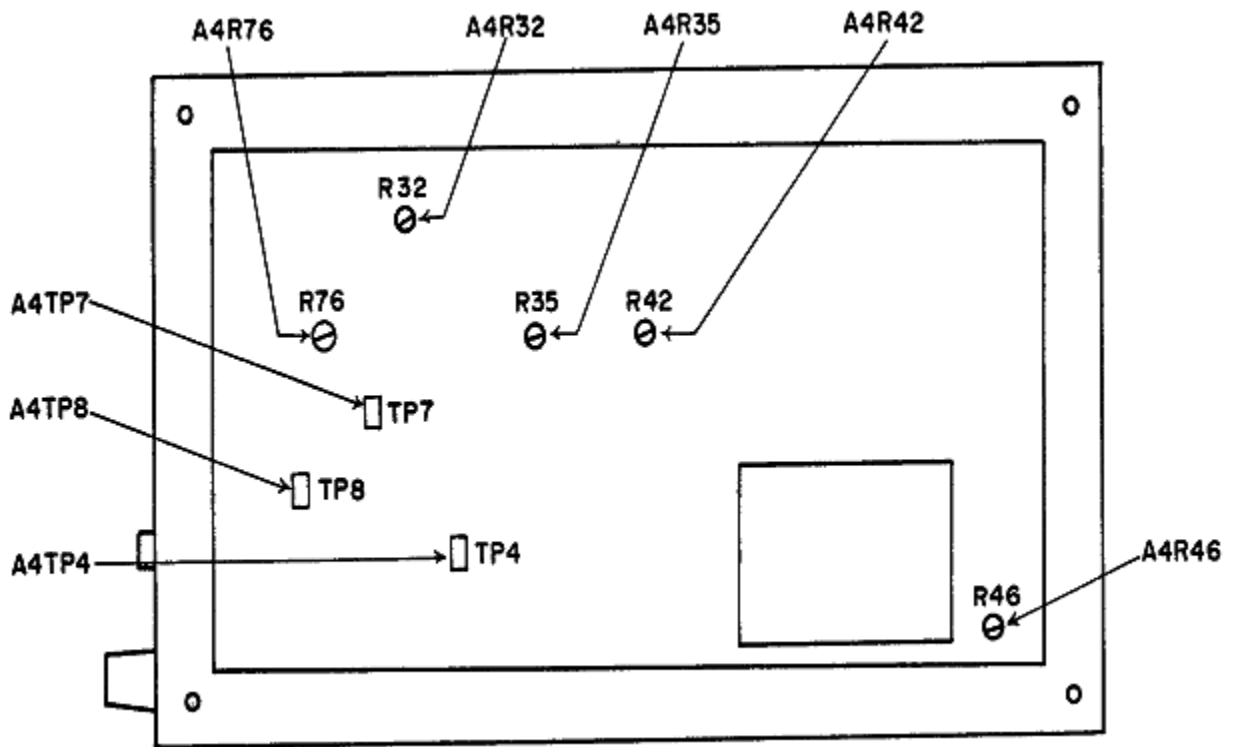

Figure 2. Model 435A - right view.
- (1) Adjust A4R35 (fig. 2) for a 1 V indication on TI meter.
- (2) Set TI **LINE** switch to **OFF**. If TI meter does not indicate **0** (zero), adjust to **0** using adjustment screw located below meter face.
- (3) Set switches as listed in (a) through (d) below:
(4) Set range calibrator switches as listed in (a) through (c) below:
(5) Connect frequency counter between A4TP8 (fig. 2) and ground. If frequency counter does not indicate between 204 and 236 Hz, for model 435A, or between 208 and 232 Hz for model 435B, perform (6) through (10) below. If frequency counter is within limits, proceed to (11) below.
- (a) Establish a horizontal grid line as dc average of test point A4TP4 (fig. 2) by setting range calibrator **FUNCTION** switch to **STANDBY**.
- (10) Adjust A4R76 (fig. 2) until zero crossover lags the square wave 150 μ s (R).
- (11) Repeat (3) above.
- (12) Position A4R46 (fig. 2) to its mechanical center position.
- (13) Adjust A4R32 (fig. 2) until multimeter indicates 0 ± 0.2 mV dc (R).
- (14) Set range calibrator **FUNCTION** switch to **CALIBRATE** and TI range to **1 mW**.
- (15) Adjust **CAL ADJ** until multimeter indicates $1,000 \pm 1$ mV dc.
- (16) Adjust A4R35 (fig. 2) until TI meter indicates full scale (R).
- (17) Set range calibrator to **STANDBY**.
- (18) Set **RANGE** switch to **3 μ W** and press and hold **ZERO** switch. Adjust A4R42 (fig. 2) until multimeter indicates 0 mV dc (R). Release **ZERO** switch.
- (19) Set TI **RANGE** switch to **1 mW**.
- (20) Set range calibrator **FUNCTION** switch to **CALIBRATE**.
- (21) Press and hold **ZERO** switch. Adjust A4R46 (fig. 2) until multimeter indicates 961 mV dc (R). Release **ZERO** switch.